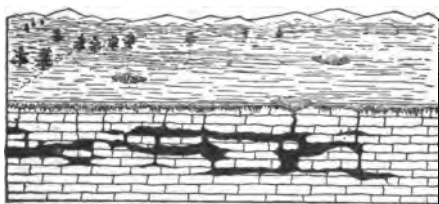

FIG. 30. — Showing how caves and holes are formed by the solvent action of water.
65. Destructive Action of Water. The action of water in stream and sea, in springs and wells, is evident to all; but the activity of ground water — that is, rain water which sinks into the soil and remains there — is little known in general. The real activity of ground water is due to its great solvent power; every time we put sugar into tea or soap into water we are using water as a solvent. When rain falls, it dissolves substances floating in the atmosphere, and when it sinks into the ground and becomes ground water, it dissolves material out of the rock which it encounters (Fig. 30). We know that water contains some mineral matter, because kettles in which water is boiled acquire in a short time a crust or coating on the inside. This crust is due to the accumulation in the kettle of
Rocks and minerals are not all equally soluble in water; some are so little soluble that it is years before any change becomes apparent, and the substances are said to be insoluble, yet in reality they are slowly dissolving. Other rocks, like limestone, are so readily soluble in water that from the small pores and cavities eaten out by the water, there may develop in long centuries, caves and caverns (Fig. 30). Most rock, like granite, contains several substances, some of which are readily soluble and others of which are not readily soluble; in such rocks a peculiar appearance is presented, due to the rapid disappearance of the soluble substance, and the persistence of the more resistant substance (Fig. 31).